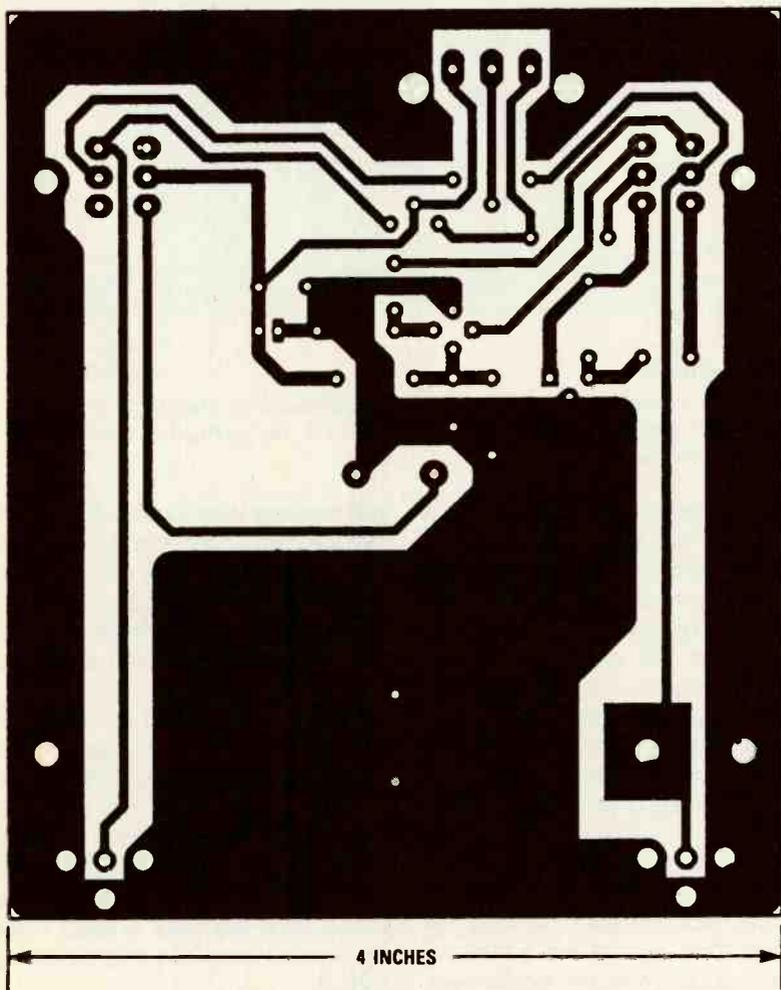

Fig. 2. The AA-7 was assembled on a printed-circuit board, measuring about 4 by 4 1/16 inches. A template for the printed-circuit board is shown here.
**Construction.** The AA-7, which can be built from scratch or purchased in kit form from the supplier listed in the Parts List, was assembled on a printed-circuit board, measuring about 4 by 4 $\frac{1}{8}$  inches. A template for the printed-circuit board is shown in Fig. 2. You can either etch your own board from that template, or purchase the circuit board or a complete kit of parts (which includes a printed-circuit board and all parts).